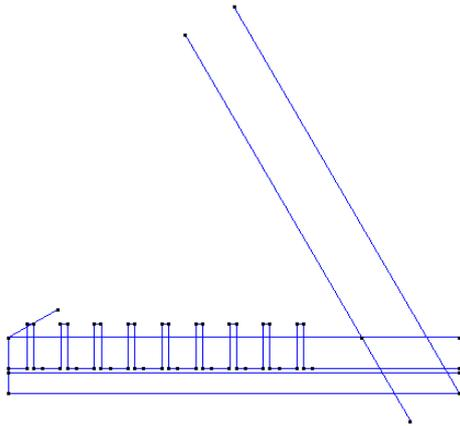

Figure 10. Creating the lines of the profile
- 6 . Again, choose the **Line** option and enter points (0, 9) and (200, 9). Press **ESC** to conclude the process of creating lines (Figure 10).